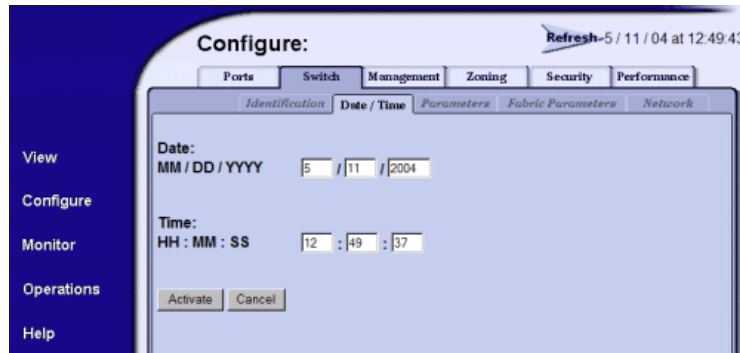

Figure 40: Switch page—Date/Time tab
1. Choose **Configure > Switch > Date/Time**. The Switch page displays with a highlighted red **Date/Time** tab selected (Figure 40).